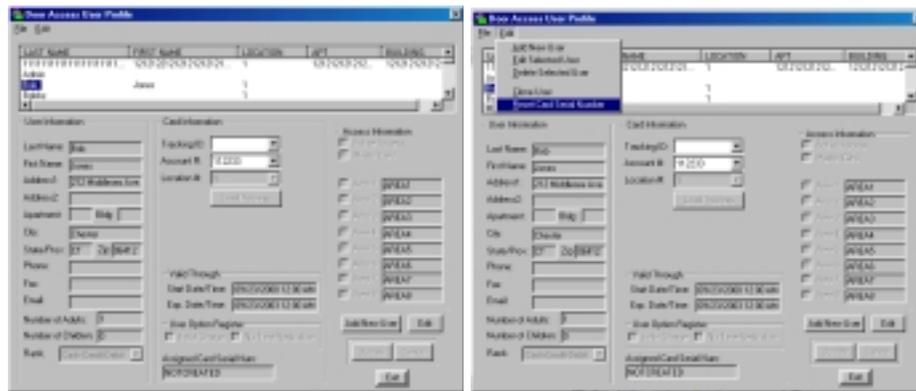

Figure 6.7 Resetting a User Card Serial Number
2. In the Door Access User Profile Window select the user for whom the card serial number is to be reset (Figure 6.7).
4. Select Reset Card Serial Number from the Edit drop-down menu (Figure 6.7).